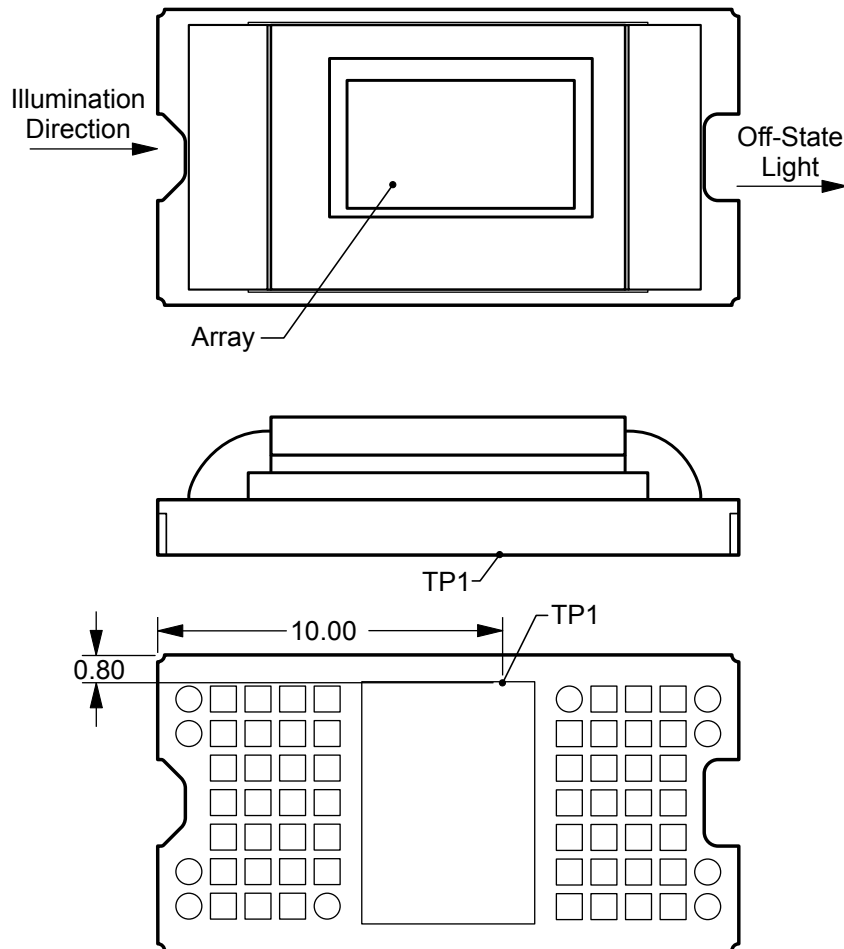

Figure 16. Thermocouple Location
Relationship between array temperature and the reference ceramic temperature (thermocouple location TP1 in Figure 16) is provided by the following equations.
- T_{CERAMIC} = measured ceramic temperature (TP1 location in Figure 16) (°C)